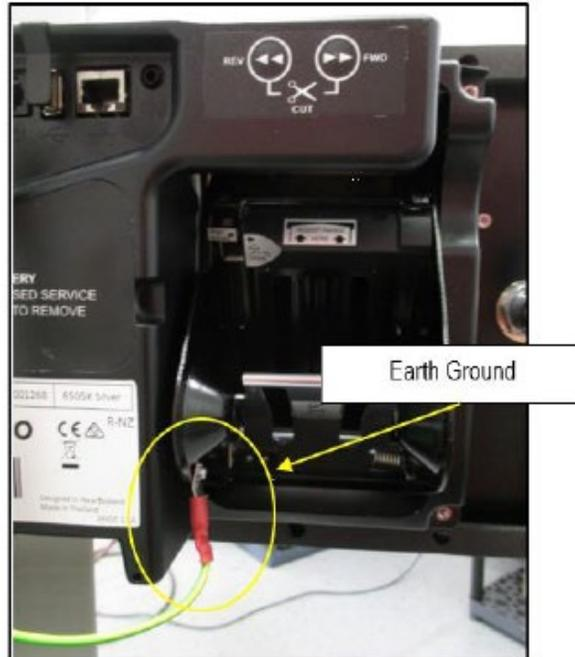

Figure 85
- 39) Locate the Earth Ground Cables that is pre-wired to the Power Supply with the Invenco Link and attach the female spade terminal to the male spade stud on the OPT unit's paper spool. See Figure 85.